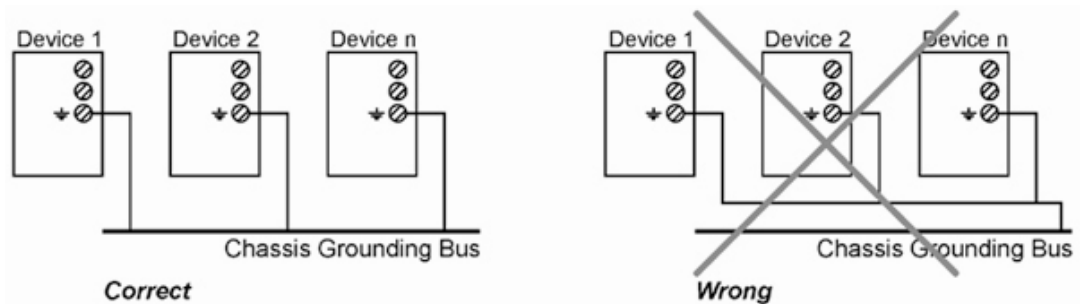

Figure 9.2 – Correct connection to Chassis Grounding Bus
- Connect each shield to Analog Grounding Bus directly, never in daisy chain, similarly as indicated in the figure 9.2.